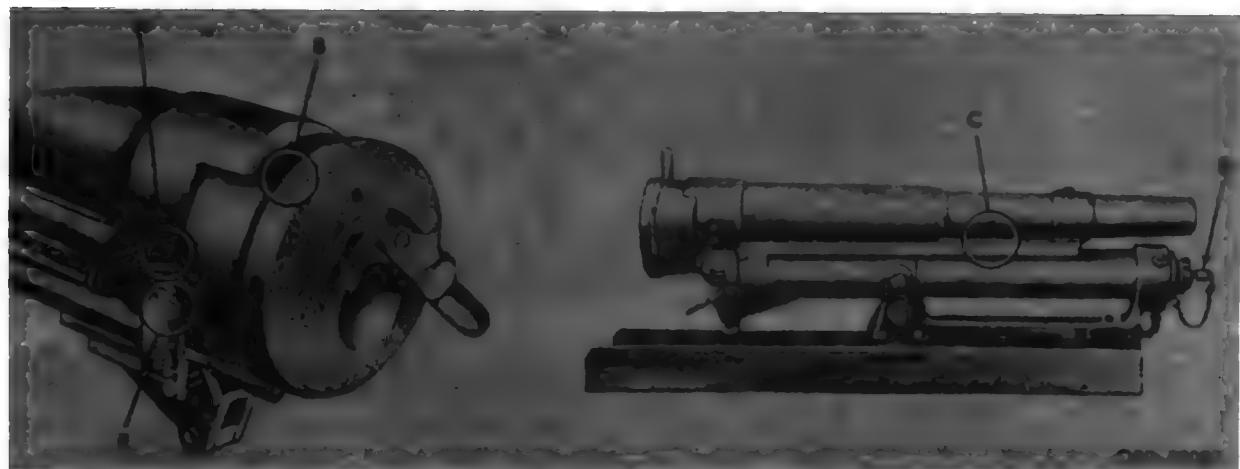

Figure 182. Localized lubrication points—37-mm subcaliber gun.
b. Points of application for lubricating the subcaliber gun are shown in figure 182 and are referenced on the lubrication chart (fig. 181).